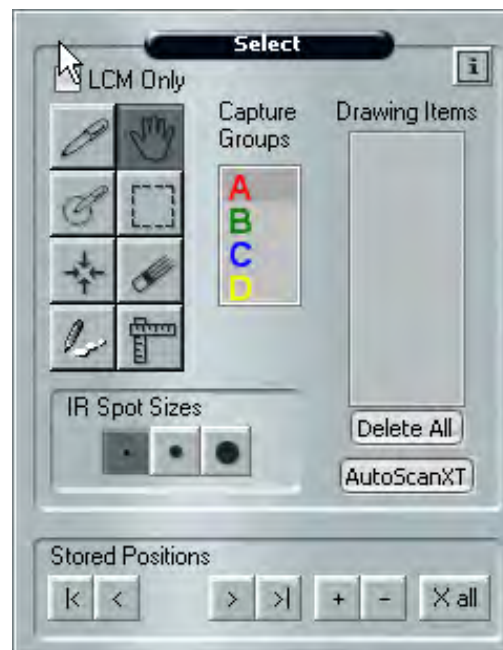

Figure 1. Select Panel.
8. The AutoScanXT button located in the Select Tool Pane will now be active (Figure 1).